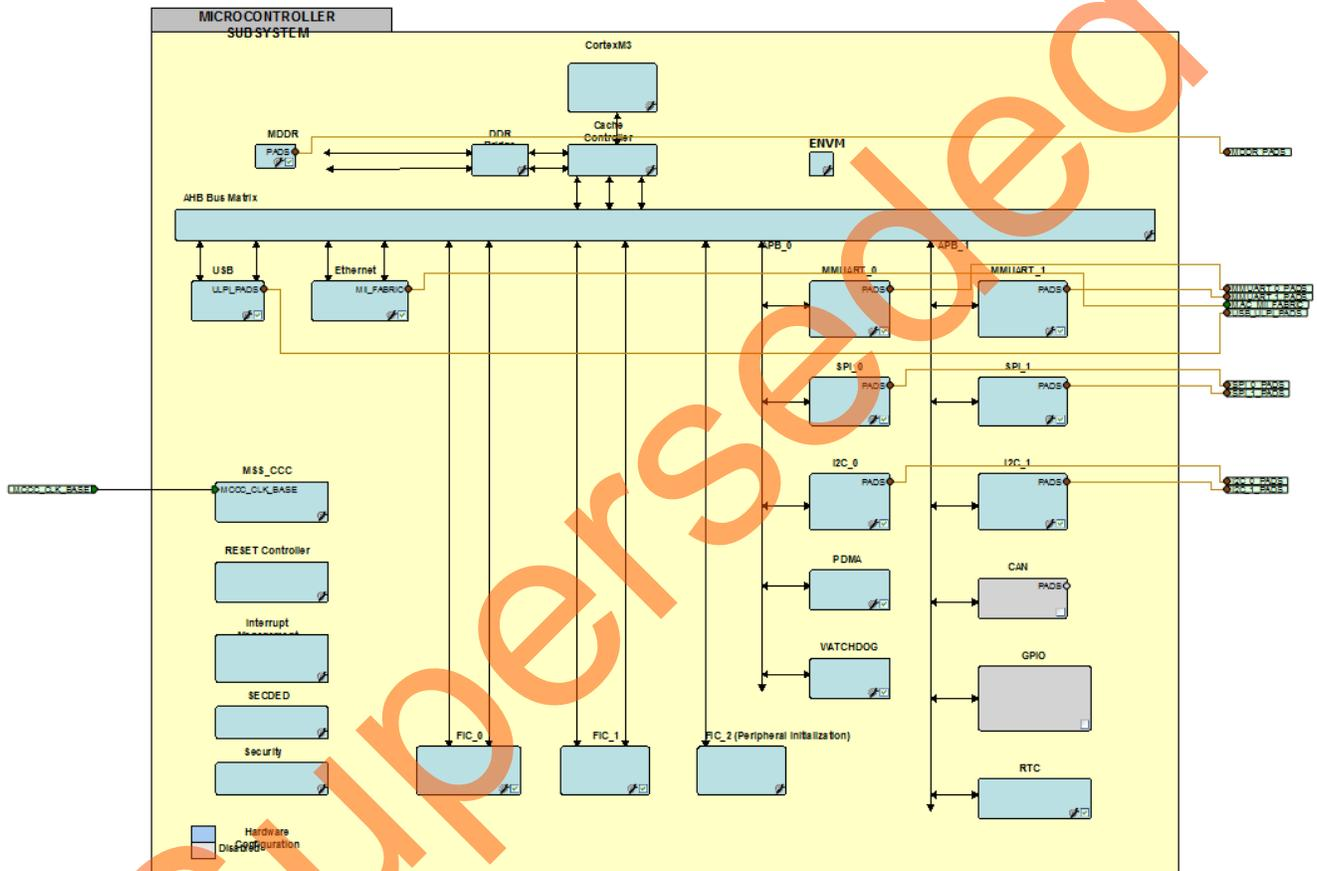

Figure 7. MSS in SmartDesign Canvas
1. Double-click **Access_EXT_SDRAM_MSS_0** to configure the MSS. The MSS is displayed in the SmartDesign canvas in a new tab, as shown in Figure 7.